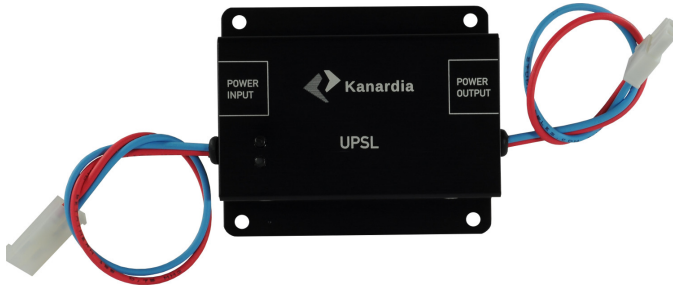

Figure 16: UPS-L – light Li-Po external backup battery.
- If your Horis does not have a backup battery, you can use our external backup battery module, P/N: **UPS-L**. This will make sure that there is enough voltage available for Horis. See Figure 16. Please note that UPS-L has limited capacity and it can serve one Horis only.